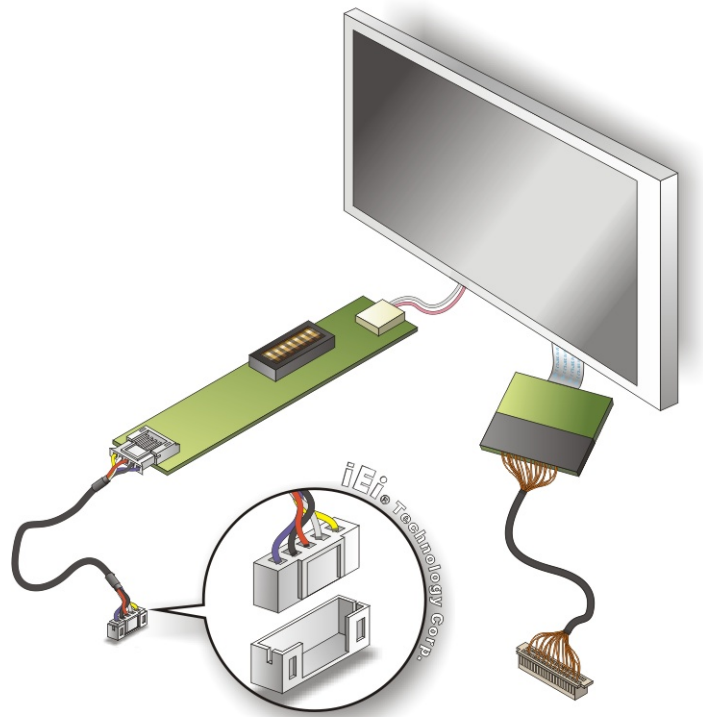

Figure 4-13: Backlight Inverter Connection
Step 4: **Connect backlight connector.** Connect the backlight connector to the driver TFT LCD PCB as shown in **Figure 4-13**. When inserting the cable connector, make sure the pins are properly aligned.